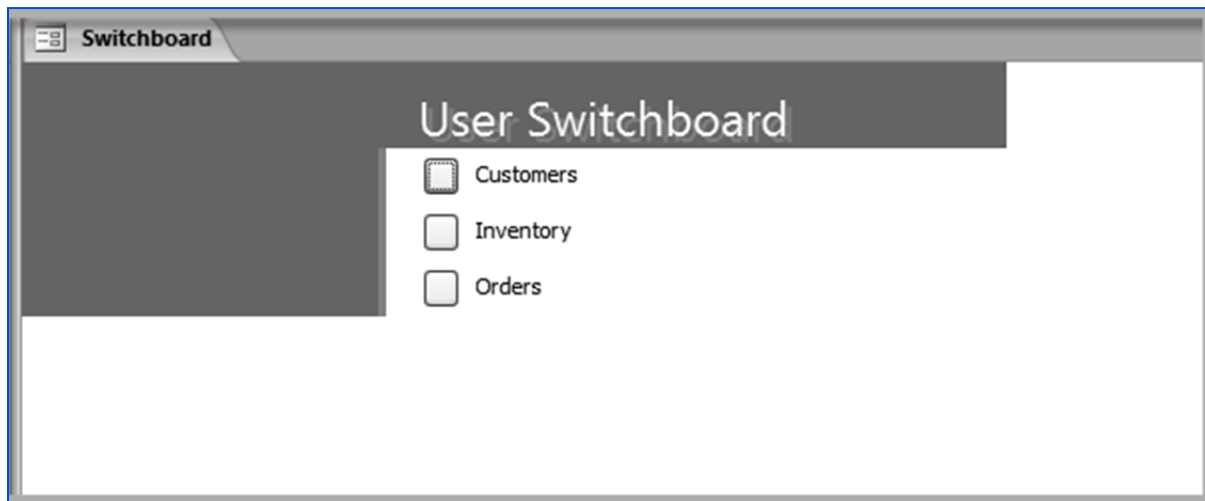

Fig. 4.3.15: User Switchboard
15. To test the switchboard created, double-click *Switchboard* under *All Access Objects* -> *Forms* to launch the *User Switchboard* window. The *switchboard form* appears, as shown in Fig. 4.3.15